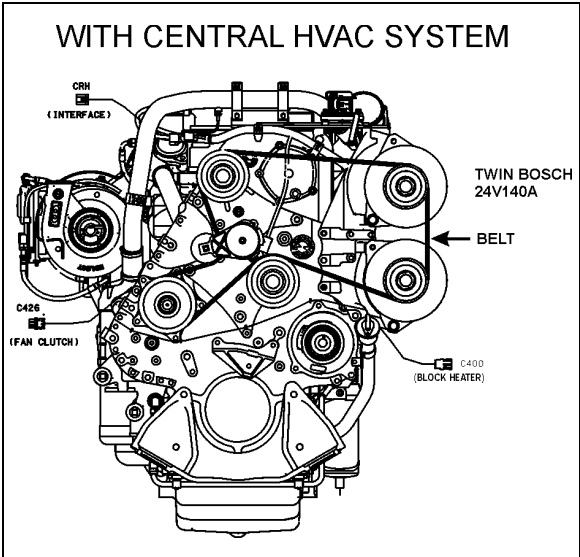
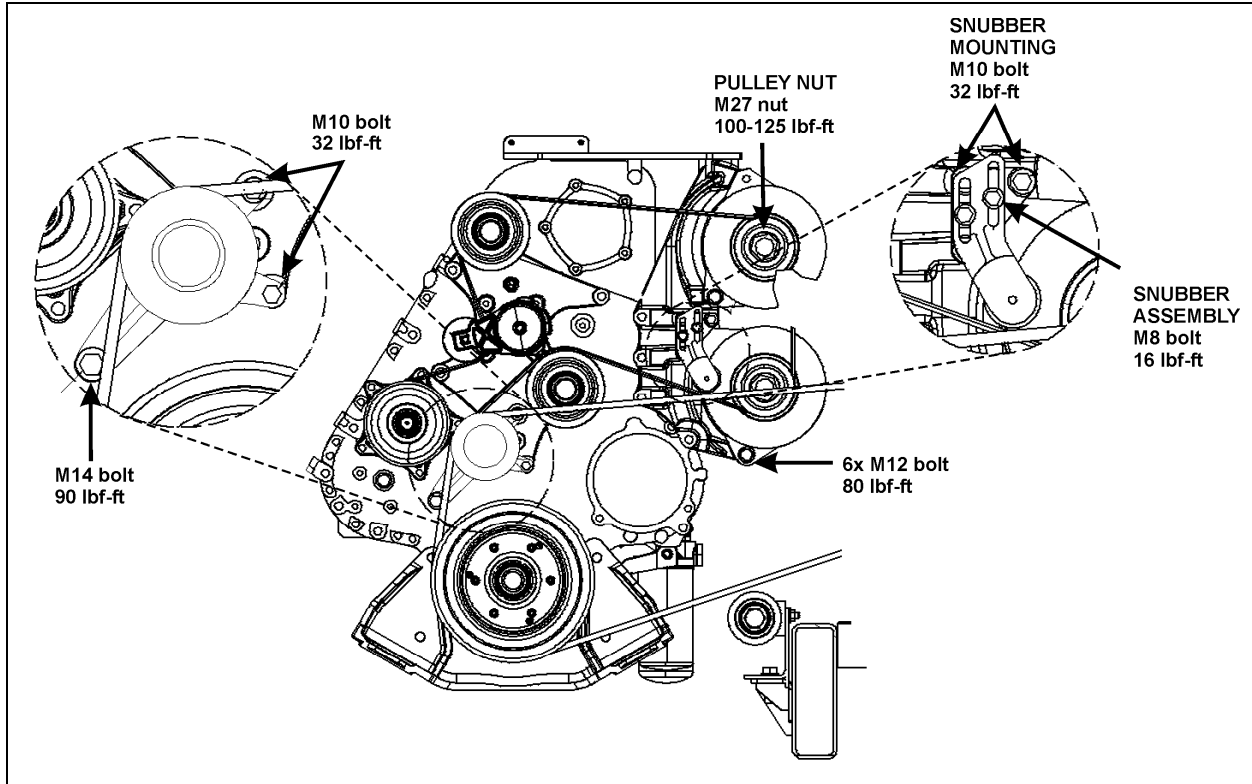

FIGURE 17: ALTERNATOR DRIVE BELT 01180
FIGURE 20: ALTERNATORS AND ACCESSORIES MOUNTING TORQUES
If the alternators needed to be removed, reinstall as follows. Refer to figure 17 up to figure 20 for installation and tightening specifications:
4. Install the snubber bracket (fig. 20) using three flanged bolts. Do not tighten the adjustment bolts on the snubber until after final tightening;
5. Install the A/C compressor belt idler pulley (fig. 20) as shown. A stud inserts into one of the mounting holes of the pulley assembly. Fasten this one using a nut and bolts for the other two.